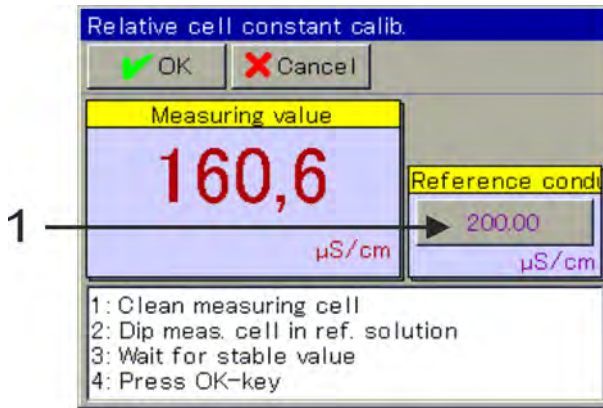

Fig. 68: To change the reference conductivity, push the button (item 1)
If necessary, adjust the value for the reference conductivity (see Fig. 68 , item 1) to the selected simulation value of the calibration box (2, 20, 200 mS/cm).
Wait for a stable measured value display and confirm the result of the measurement with "OK". (See Fig. 68 .)